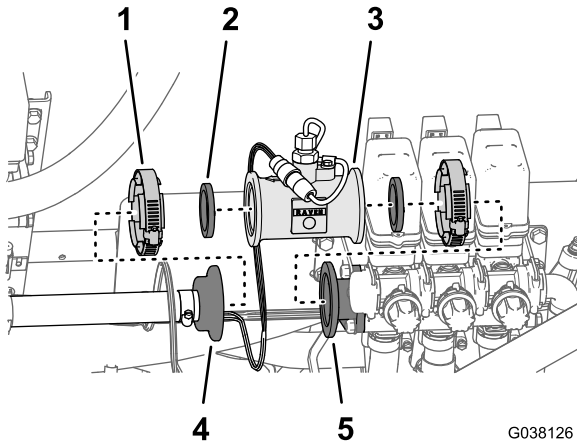

Figure 16
1. Remove the flange clamp that secures the barbed flange fitting of the flow meter hose to the flow meter (Figure 16).
2. Remove the flange clamp that secure the flow meter to the adapter fitting at the left boom-section valve (Figure 16).
3. Remove the flow meter and 2 gaskets from the valve manifolds (Figure 16).